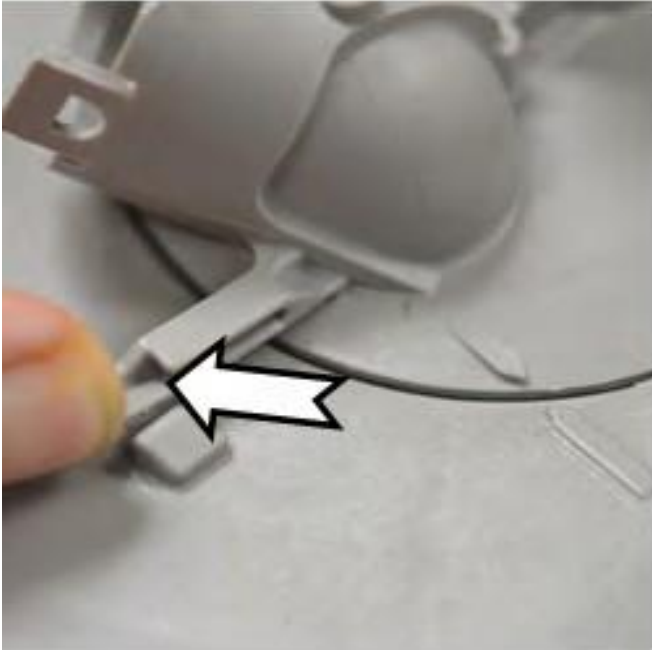

Figure 4
3. Release the lock on the diverter housing, see figure 4